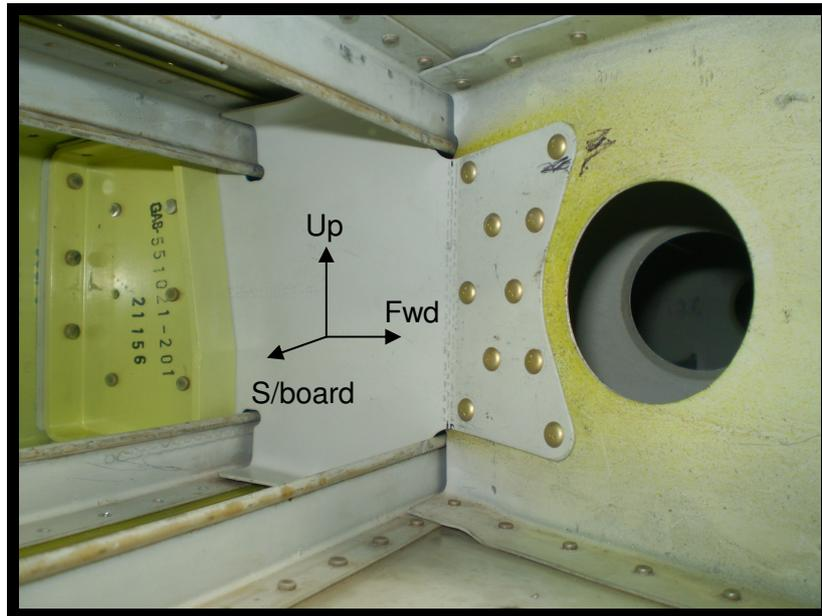

Figure 7
- 5.3. Rivet each Rib 1 Section complete with Stiffener Bracket to inboard rib forward section using 10 x MS20470AD4 rivets in each rib. See Figure 7. (Left hand side Pictured)